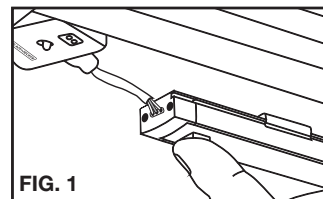

FIG. 1
**Using the Power Button:** Press the power button located on the light bar once to turn the lights on. To turn off, press the power button again. (See **FIG. 1**)
There are ten (10) preset lighting levels that can be adjusted with the dimmer button. To select your lighting level, ensure that the system is already powered on. Hold down the button to change the lighting level and/or switch between the presets. (See **FIG. 1**)